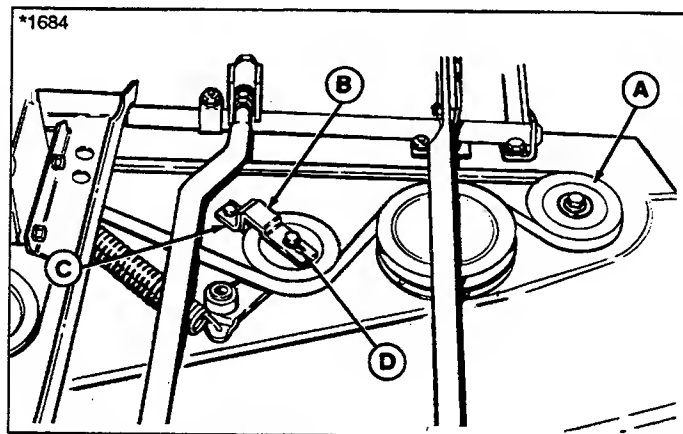

Figure 30. Idler Bracket
- When the belt is installed, the bracket (B, figure 30) should touch the stop (C, figure 30). The bracket has a slot (D) so it can be adjusted. If necessary, loosen the fasteners and move the bracket (B) toward the stop.
- If the bracket cannot be moved far enough to touch the stop (C), the idler pulley (A) can be repositioned. Remove the mounting hardware, noting the position. Reinstall the pulley in the hole in the mower deck which is slightly farther away from center of mower.